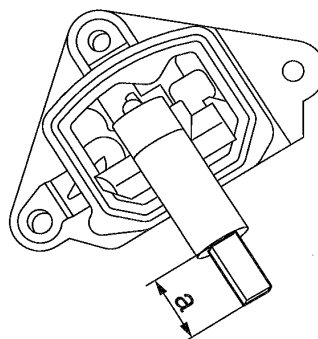

Figure 7 Brush Length Measurement
1. The exposed length of the carbon brushes must be measured to determine if they require replacement. Measure the length of each brush. If the exposed brush length is less than 7 mm (0.276"), the brush must be replaced. (Figure 7)